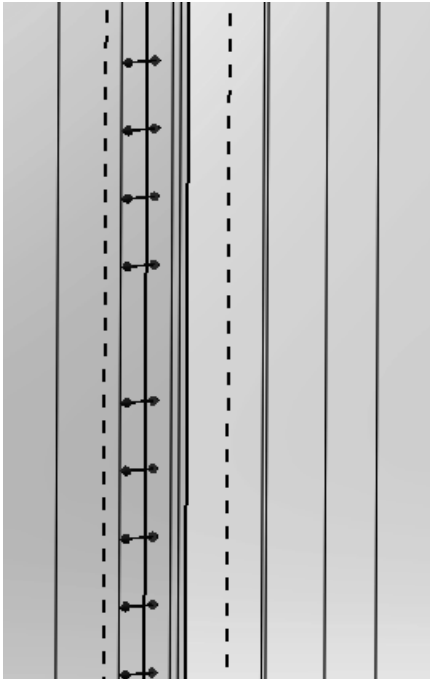

Figure 2.18b) Outlet static pressure boundary condition
18. Red arrows pointing in the flow direction appear, indicating the inlet velocity boundary condition; see figure 2.17d). Right click in the graphics window and select **Zoom to Fit**. Right click again in the graphics window and select  **Rotate View** once again to rotate the part so that the inner right surface is visible in the graphics window. Right click and click on  **Select**. Right click on  **Boundary Conditions** in the **Flow Simulation analysis tree** and select **Insert Boundary Condition...** Right click on the outflow boundary surface and select **Select Other**. Select the Face corresponding to the outflow boundary. Click on the **Pressure Openings** button in the **Type** portion of the **Boundary Condition** window and select **Static Pressure**. Click OK  to exit the window. If you zoom in on the outlet boundary, you will see blue arrows indicating the static pressure boundary condition; see figure 2.18b).